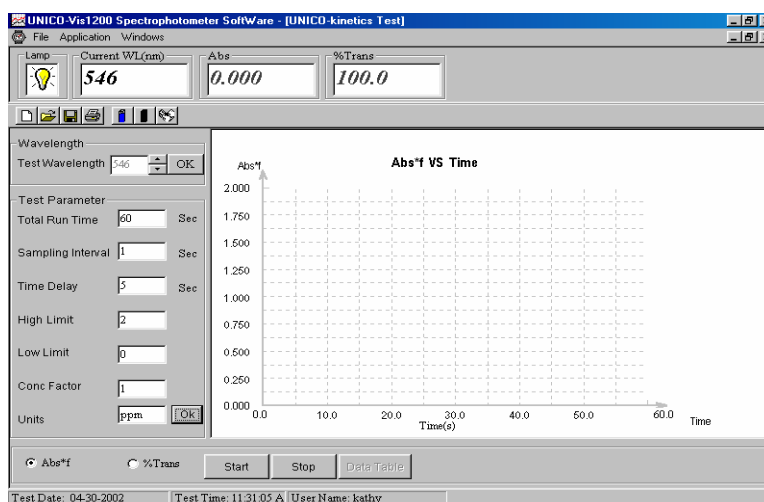

Figure-35 Test Parameters Setting
- Step 4: Set the **Test Parameters** (Figure-35) (**Step 4 to Step 8**). Set the **Total Run Time** by typing into the Text Field on the right of the **Total Run Time** label. This is the total time for the reaction to occur.